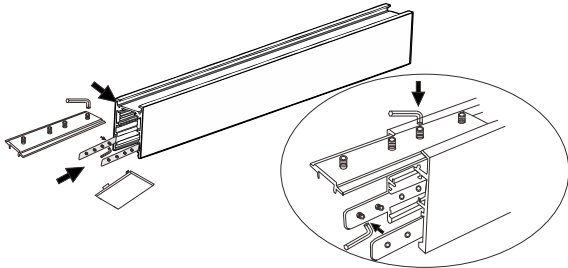

Figure5.1
1. First take out the end cover of one end of the track, load the magnetic track connecting fixed bolts, and fix the bolts on both sides with an internal six-pin spanner; The back slot is mounted on the fixed metal plate with linear splice, and the screws are fixed with an internal six-pin spanner. (See Figure 5.1)